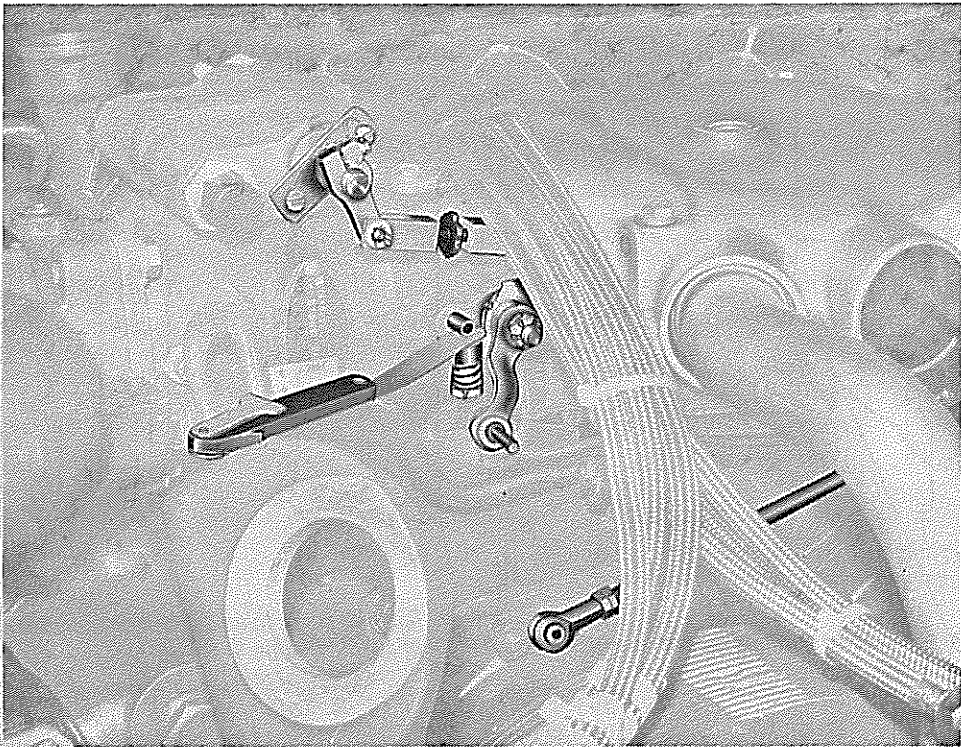

Figure 5-4. Setting Idle Adjusting Screw at Injector Stop Pin
c. Back off idle stop adjusting screw until it just touches the injector stop pin when the throttle butterfly is fully closed. Check clearance with a piece of shim stock of an .0015 inch feeler gage. See figure 5-4.